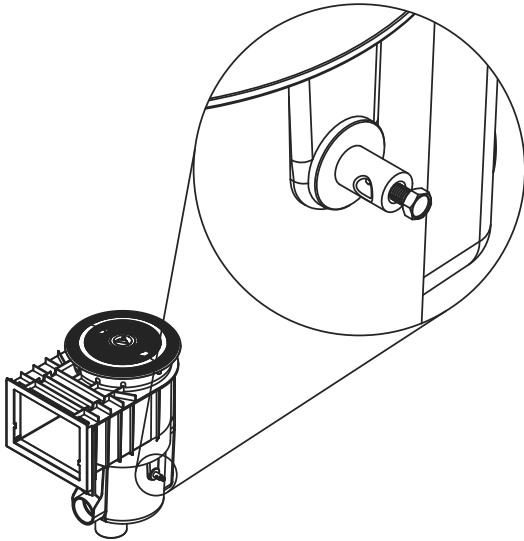

Figure 5
3. Bonding can be performed by utilizing the integrated stainless steel bonding lug (optional upgrade) located on the outside of the QuikSkim Ultra (Figure 5). The bonding lug is molded into the body and connects to a corrosion resistant 316 stainless steel bonding plate located on the inside of the skimmer (Figure 6b). However, in the event that this plate should ever become corroded, it can easily be replaced by loosening the stainless steel locking nut (Figure 6a), removing the old bonding plate, adding a new bonding plate and securing the locking nut.